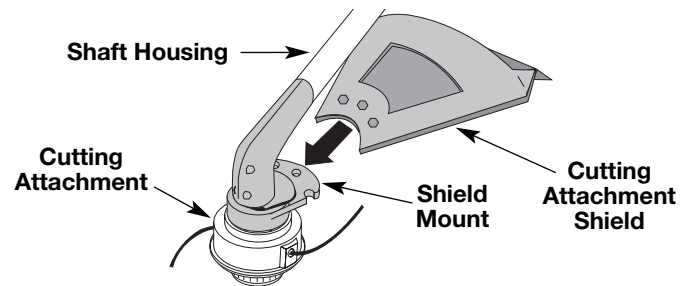

Fig. 3
1. Slide the cutting attachment shield into the shield mount on the cutting attachment. Align the screw holes in the shield mount with the holes in the cutting attachment (Fig. 3).